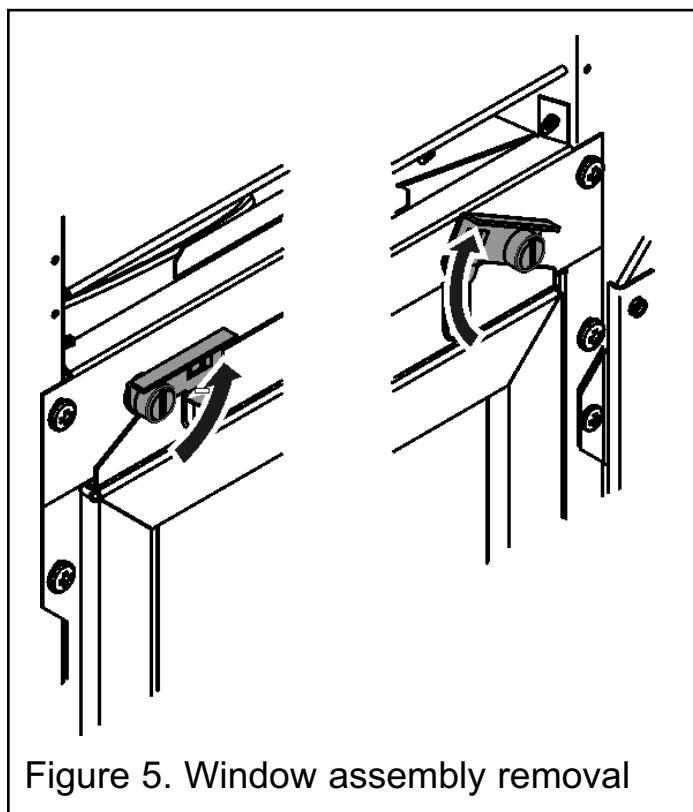
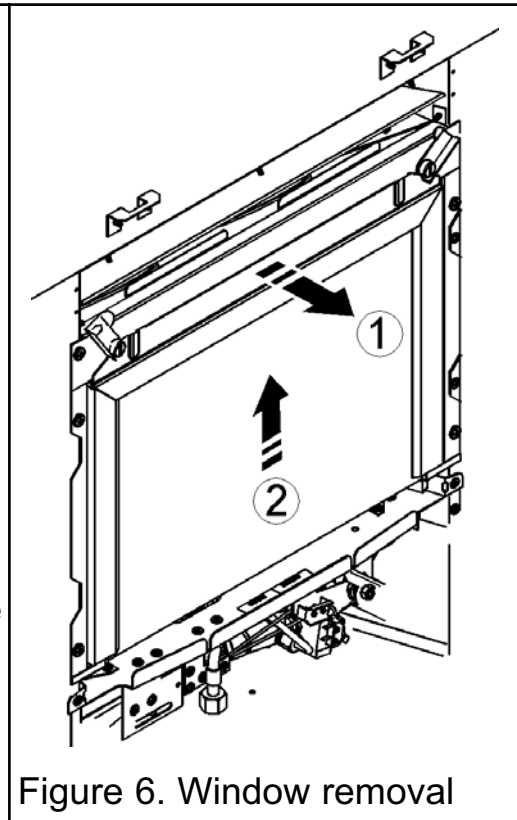

Figure 5. Window assembly removal
Figure 6. Window removal
1. The window assembly is held in place with two clamping brackets that rotate around a central pivot point. Push the brackets up and clear of the window assembly (See figure 5). Gently pull the top of the window frame forward and lift the window assembly clear of its support channels (See figure 6). Place the window assembly in a safe place away from the work area.